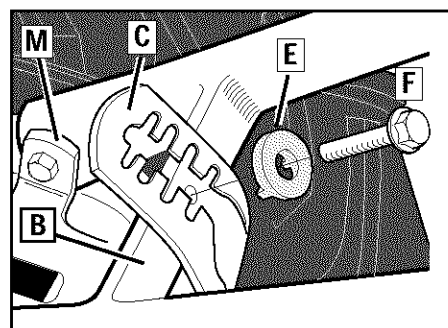
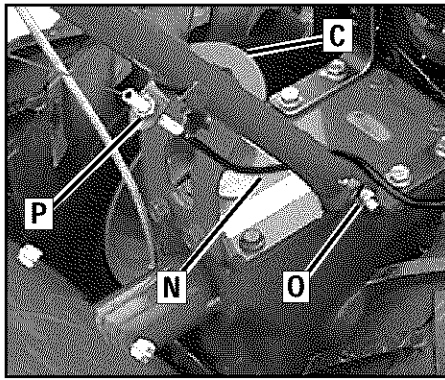

Figure 2-2: Forward clutch control cable not shown for clarity.
Figure 2-3: Attach handlebars.
2. Gently lift handlebar (do not overstretch attached cable) and place handlebar cross-brace (B, Figure 2-2) in front of curved height adjustment bracket (C).
3. With forward clutch cable (N, Figure 2-3) on inside of handlebar, position handlebar ends on outside of the two mounting tabs (M, Figure 2-2) on transmission top cover.
4. Loosely attach the handlebars to the mounting tabs with two 3/8"-16 x 1" screws (heads of screws go to inside of tabs), 3/8" flat washers and 3/8"-16 locknuts (O, Figure 2-3).
5. Move the handlebars up or down to align the threaded hole in the cross-brace with one of the four slots in the curved height adjustment bracket. Place the keyed washer (E, Figure 2-2) on the flange head height adjustment screw (F) with the raised keys (edges) of the washer facing down.
6. Thread the height adjustment screw (F, Figure 2-2) into the hole in the handlebar cross-brace, making sure that the raised keys on the washer fit into the slot on the height adjustment bracket. Tighten the height adjustment screw securely. Next, securely tighten the two screws and nuts in the ends of the handlebar (M, Figure 2-2).